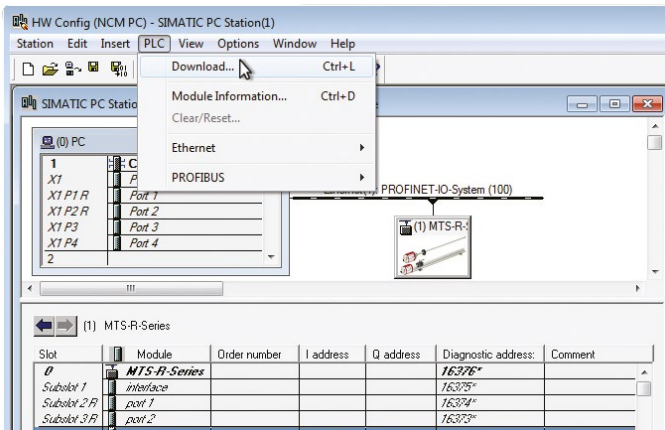

Fig. 71: Transfer settings to the control system (source: Siemens)
- Transfer your settings to the controller as described below (Fig. 71):